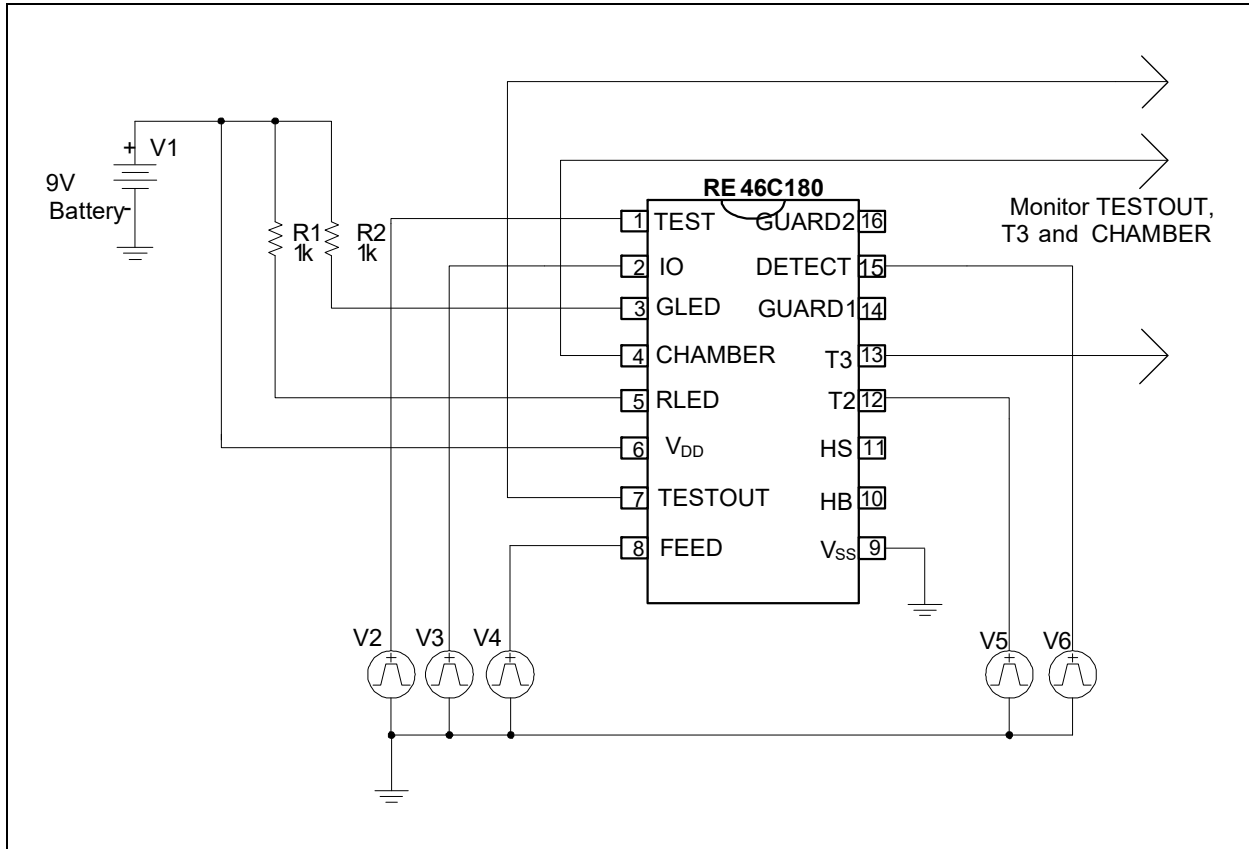

FIGURE 4-1: Nominal Application Circuit for Programming.
1. Power-up with the bias condition shown in Figure 4-1. At power-up:
1. Power-up with the bias condition shown in Figure 4-1 to enter M0. At power-up:
- Power-up with the bias condition shown in Figure 4-1. At power-up: